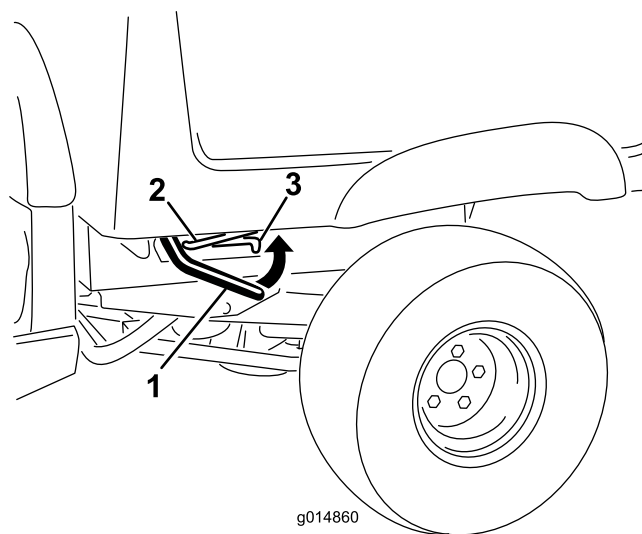

Figure 14
2. Lift the lever on either side of the box and lift the box up (Figure 14).
3. Pull the prop rod into the detent slot, securing the box (Figure 14).